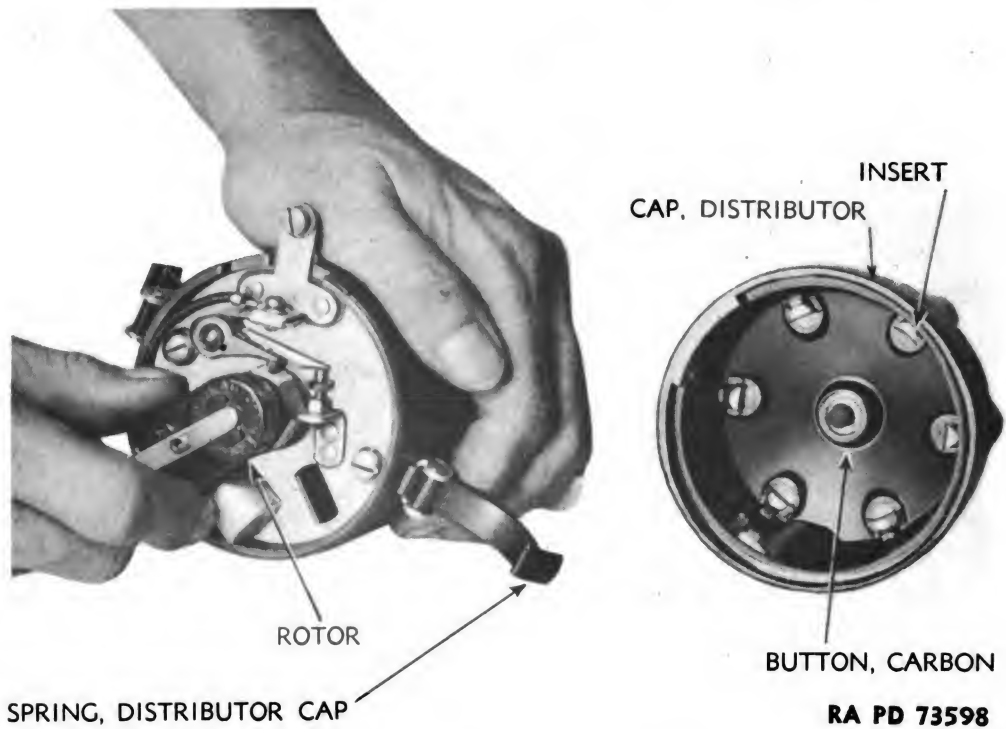

Figure 151 — Lifting Off Rotor
(1) Snap down the two distributor cap springs, and lift the cap off the distributor.
(2) Lift rotor up from shaft and remove (fig. 151).